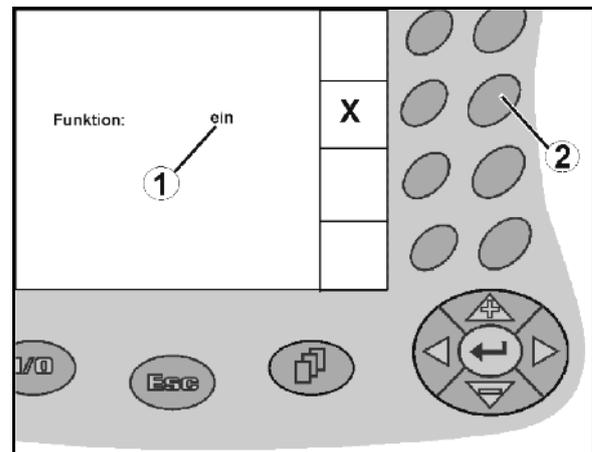

Fig. 15
- Press function key (Fig. 15/2) once
→ Function **on** (Fig. 15/1).